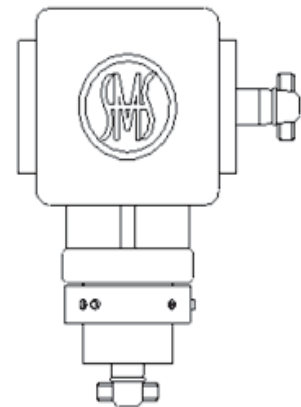

Figure 34 Place bushing
9.6.2.2 Place the bushing at the lower end of the bevel gear box and fix with 4 pieces of M6×10 set screws (90° equally divided). (Figure 34)